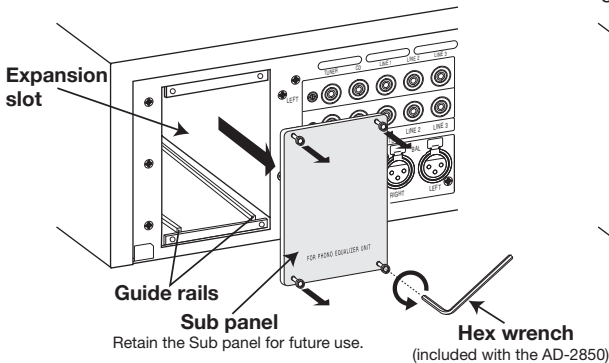

Fig. 1
- ❶ Set the power switch of the preamplifier to OFF.
- ❷ Remove the sub panel of the expansion slot on the rear panel. Use the supplied hex wrench to remove the four screws by turning them counterclockwise (see Fig. 1). The removed sub panel is not used.